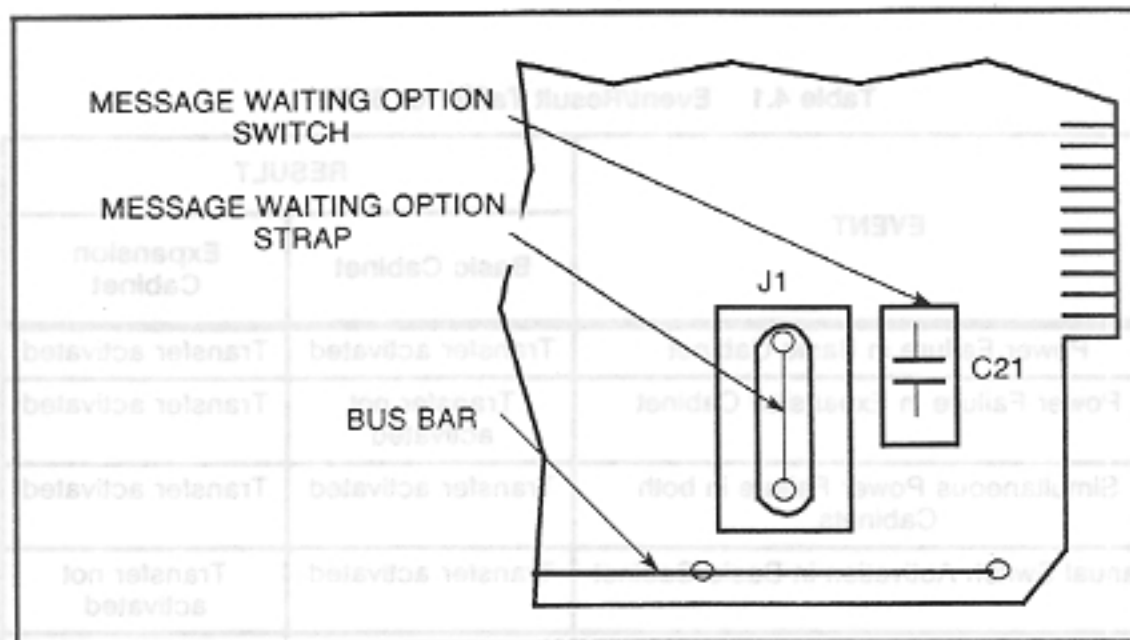

Figure 4.1 Message Waiting Option on the RGEN
1. All RGEN cards are shipped with the message waiting option disabled. If the message waiting option is specified, it must be selected by placing the slide switch in the ON position or by cutting the strap (J1) as shown in Figure 4.1. All RGENs are shipped with the strap (J1) installed or with the slide switch set to the OFF position. To enable message waiting, cut the strap or set the switch to ON. Further data base programming is required for activation.